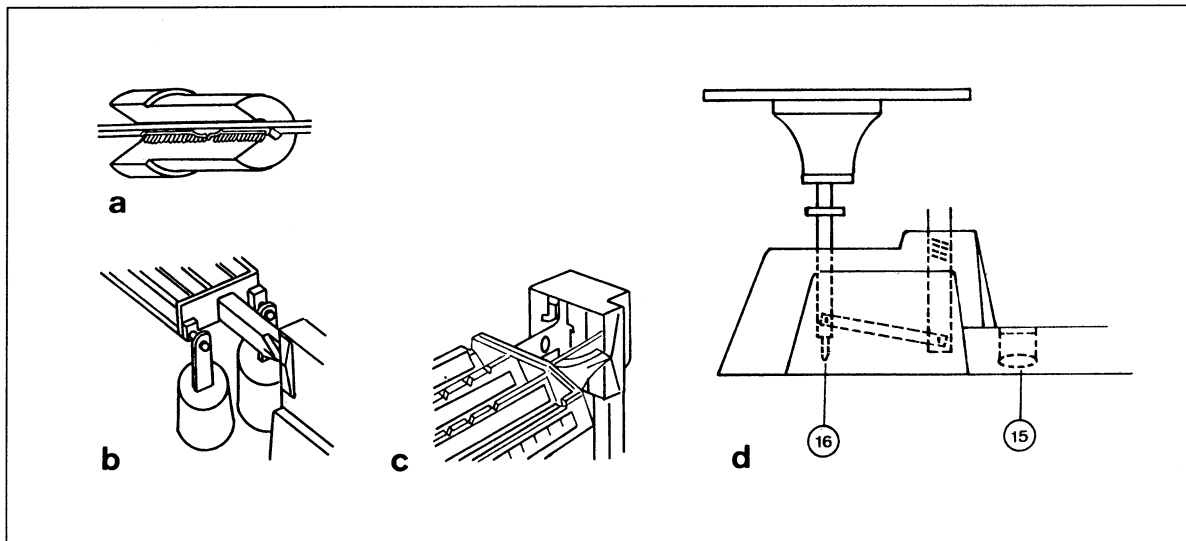

Fig. 5 ► Note
On the tare beam without scale graduations, you will find a jockey weight with an internal screw thread for stepless fine taring. For rough settings, you move the weight up and down the beam: it is held in position by a leaf spring ► Fig. 5 a).
You can extend the weighing range of the triple-scale balance by 2000 g, by adding additional weights. You attach them by the hook (14) ► Fig. 5 b). While they are not needed, they can be stored in the recess in the baseplate of the balance.
The balance's equilibrium indicator is magnetically damped. The blade of the indicator swings freely between two magnets ► Fig. 5 c).
For making hydrostatic measurements, the balance has a stand holder (12 mm) in its baseplate (15) and a hook underneath the weighing platform (16) ► Fig. 5 d).